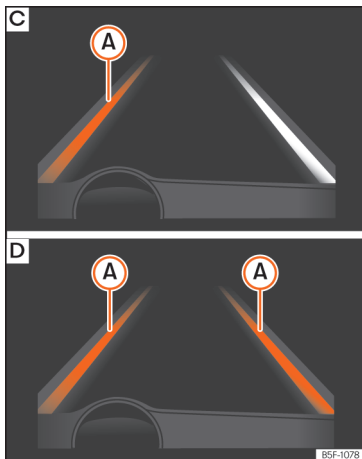

Fig. 268 On the instrument panel display: Indication on the Lane Assist system display (example 2).
- The system is operational, the highlighted line (A) indicates that there was a risk of involuntarily crossing the lane line and that the steering is being adjusted to correct the angle »»» Fig. 268 C.
- The two highlighted lines (A) light up simultaneously when both lane lines are recognised and the Lane Assist function is active »»» Fig. 268 D.